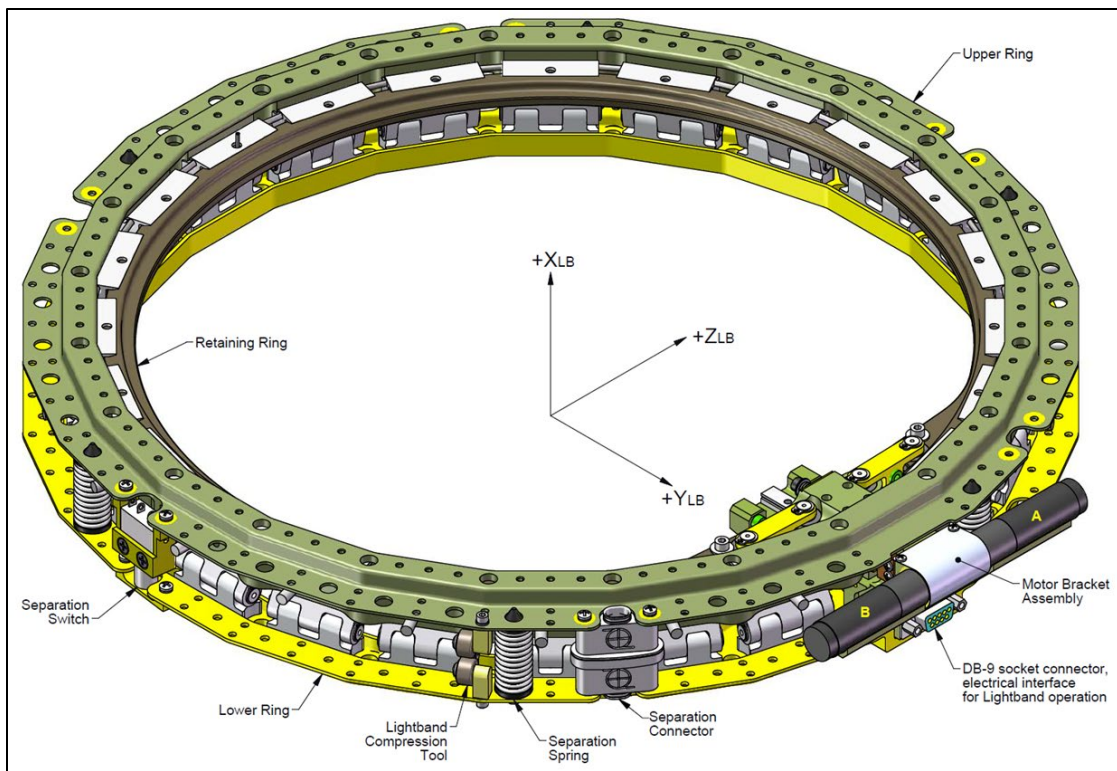
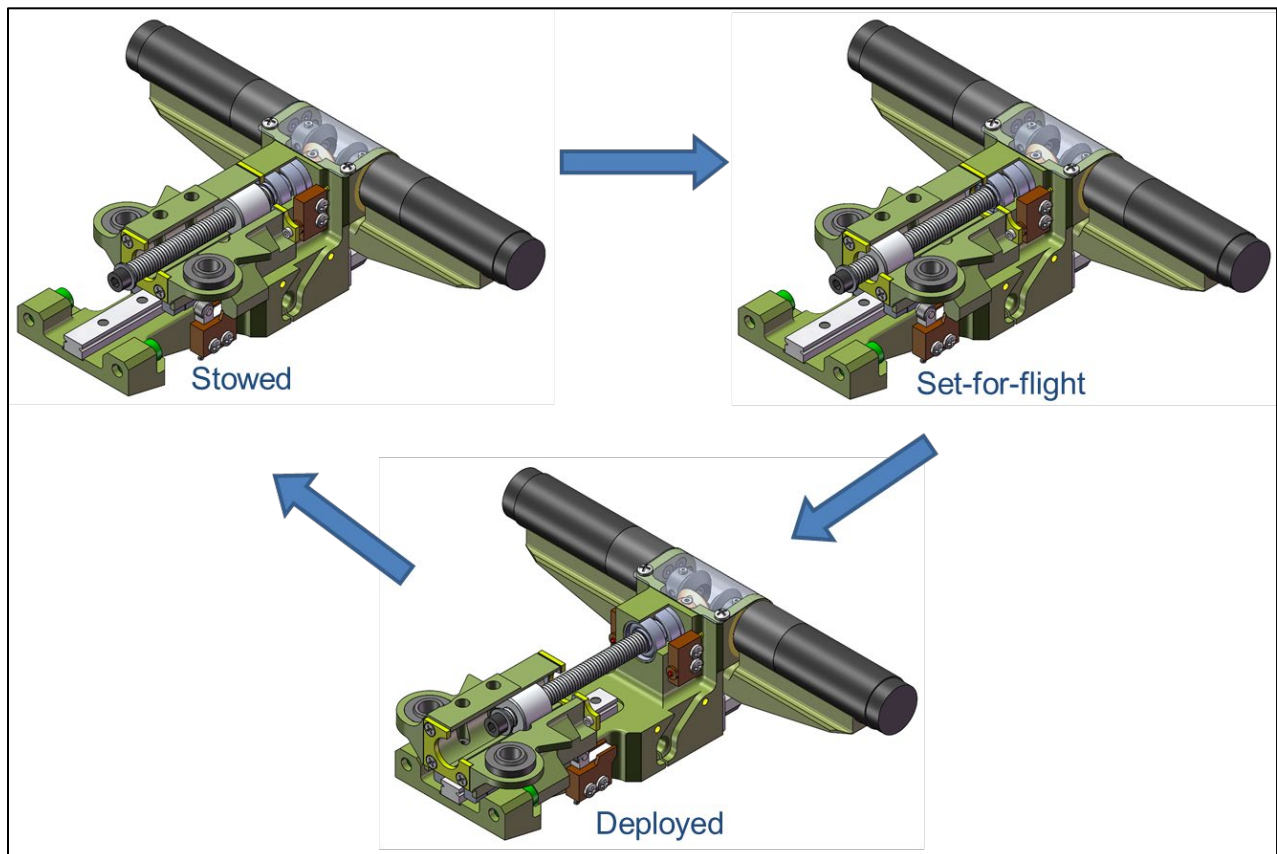

Figure 3-1: MLB15.000-24, Stowed
Figure 3-6: Motor Bracket Assembly operations
The Lightband is comprised of two separable halves. The Lower Ring contains the Hinged Leaves, Retaining Ring, Motor Bracket Assembly (MBA) and Separation Springs. The Upper Ring, smaller and lighter, contains both the Leaf engagement grooves and the spring plungers that help the Leaves disengage from the accepting groove. Typically, the Lower Ring is attached to the launch vehicle (LV) and the Upper Ring is attached to the space vehicle (SV). The electrical interface to operate the Lightband is a DB-9 socket connector on the outside of the MBA. See Figure 3-1 to Figure 3-6. For more information on the Lightband see PSC document *2000785 MkII MLB User Manual*.